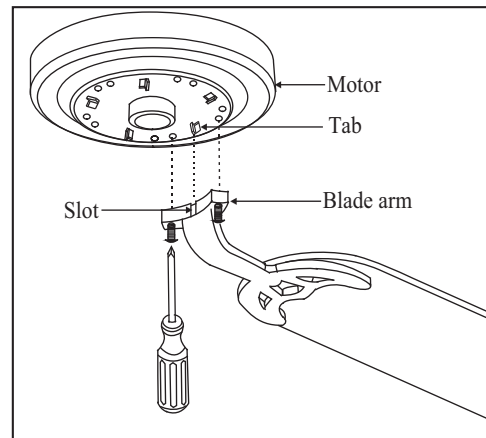

Figure 18
3. Fasten the blade assemblies to the motor housing by lining up the slots of the blade arms with the tabs on the motor housing, then tighten the two screws and washers already installed in the blade arms. (Fig. 18)